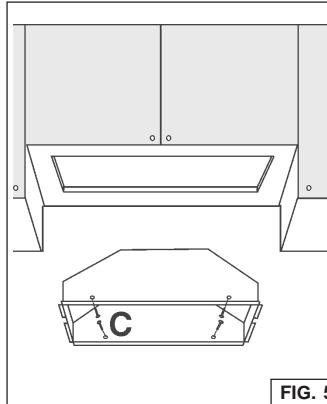
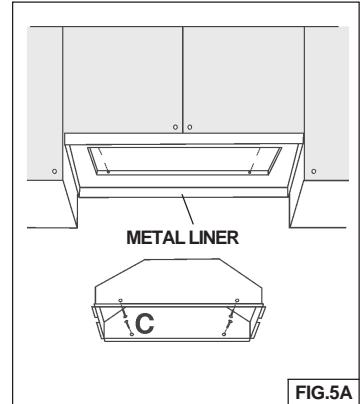

FIG. 5
FIG. 5A
4. NOTE: For installations where the Power Pack is less than 30" above cook top, it is recommended that the Power Pack be mounted into a metal liner or non-combustible material. This will allow easier cleaning and provide protection to the cabinetry (Fig.5A).
6. Insert the hood in the cabinet (Fig. 5) or metal liner (Fig. 5A) and secure with the (4) "C" mounting sheet metal screws. (Fig. 5 - wood bottom installation; recommended thickness 1/2"- 3/4").